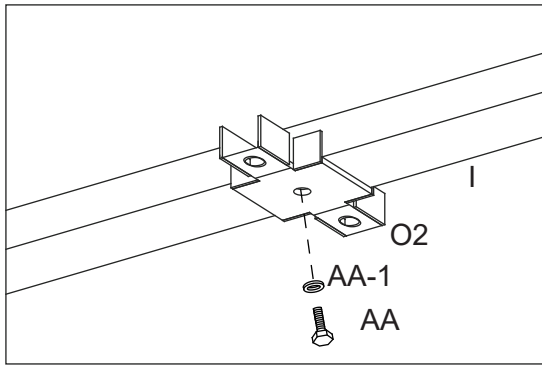

Figure 13-1
13.1: Attach Connector (O2) to Main Roof Vertical Center Support (I) using Bolt (AA) and Steel washer (AA-1). See Figure 13-1.